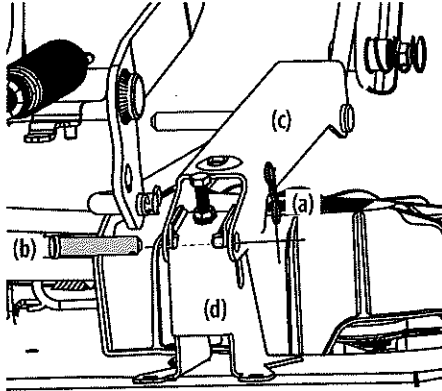

Figure 43
- a. Remove the two bow-tie pins (a) from the clevis pins (b) that secure the lift link brackets (c) to the rear deck lift brackets (d) on the deck. Remove the clevis pins (b). See Figure 43.